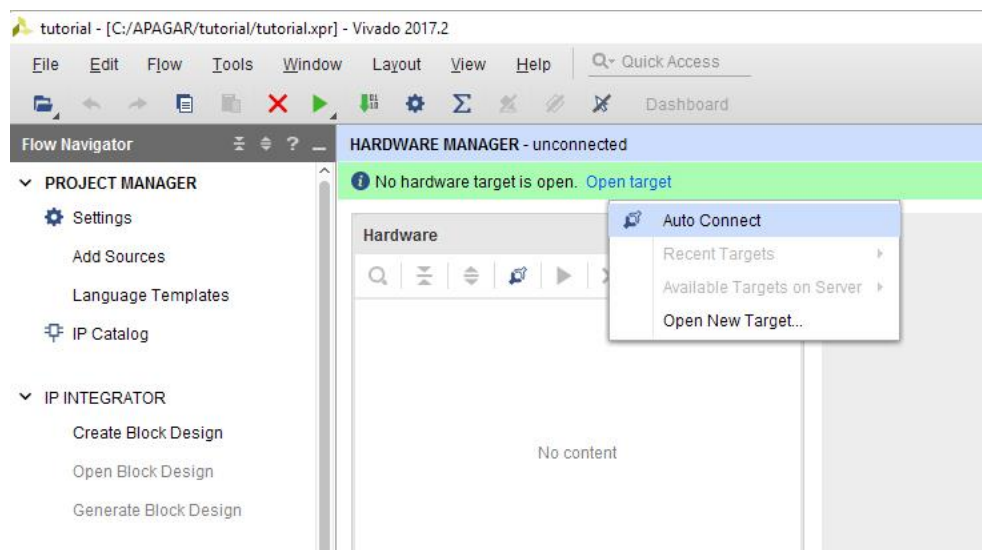

Figure 36
6. In the top left of the new **Hardware Manager** window, select **Open target → Auto Connect** (Figure 36)